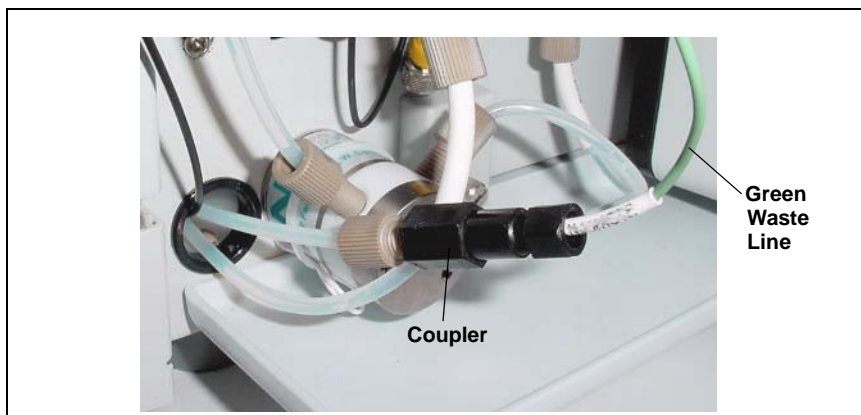

Figure 8. Injection Valve Waste Line Coupler
A coupler (see Figure 8) connects the green waste line from port **W** (6) to a 3-mm (1/8-in) ID PTFE waste line. The waste line is routed through the tubing chase to the IC system rear panel.